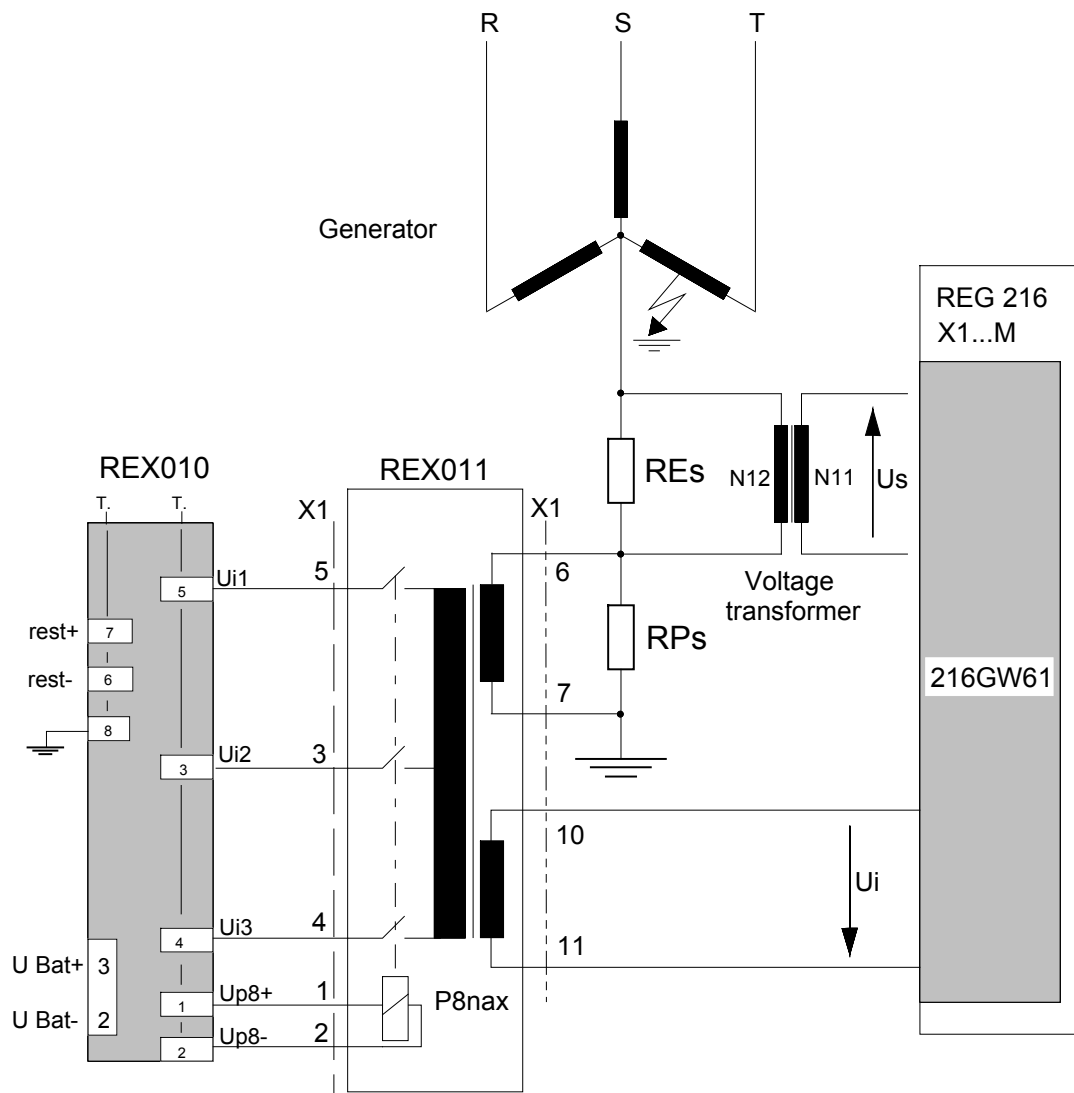

Fig. 2.22 Wiring diagram for REX 011 for primary injection of the stator (see also Fig. 2.29)
- Fig. 2.22 Wiring diagram for REX 011 for primary injection of the stator